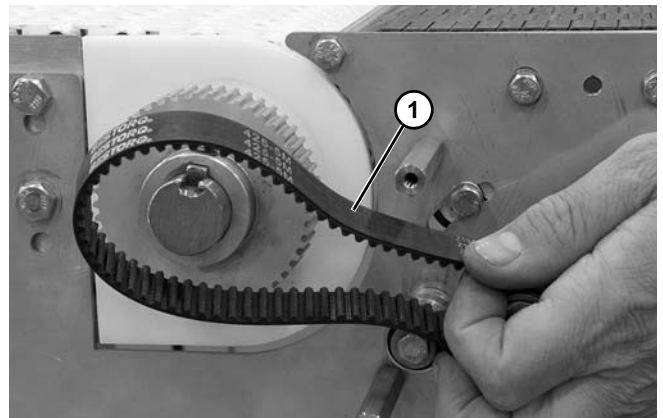

Figure 61
3. Remove timing belt (**Figure 61, item 1**).